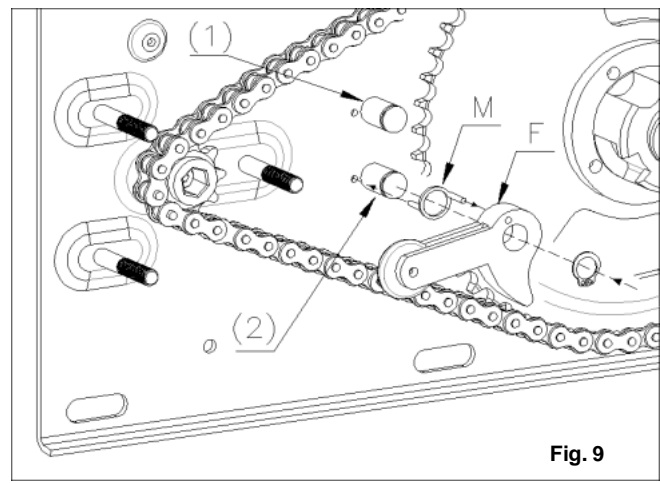

Fig. 9
For the configuration to the left of the transmission bracket, proceed as follows: Remove the parachute system from the pin (1) and turning it 180°, mount it on the pin (2) as shown in Figure 9; Insert the spring (M) between the two holes for med respectively on the bracket and on the parachute system. At this point, collapse the group and secure it with the snap ring.